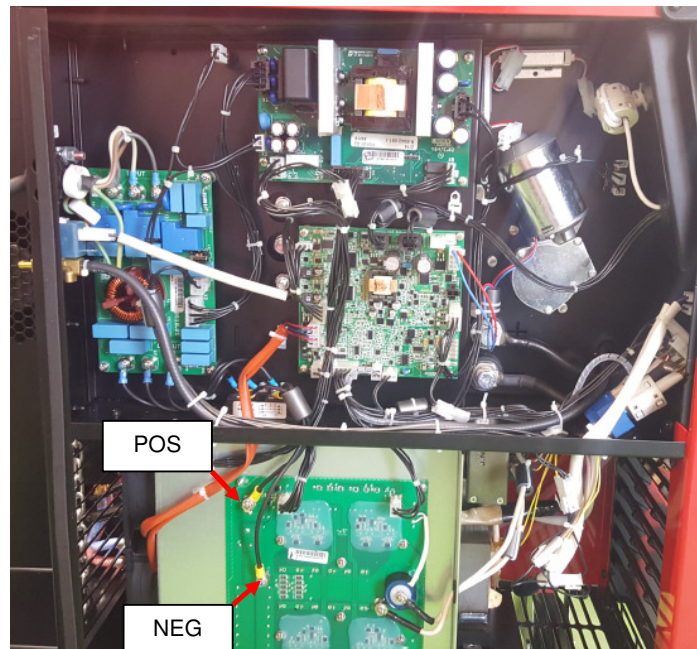

Figure 1
3. Remove the 4 screws (A) from the left and right side panel. **See Figure 1**
4. Locate the terminals **POS** and **NEG** on the Inverter board, **See Figure 1**.
8. Use electrically insulate gloves and insulated pliers. Hold the body of the resistor and connect the resistor leads across the two points POS and NEG. **See Figure 1**. Hold the resistor in place for 10 seconds. DO NOT TOUCH CAPACITOR TERMINALS WITH YOUR BARE HANDS.